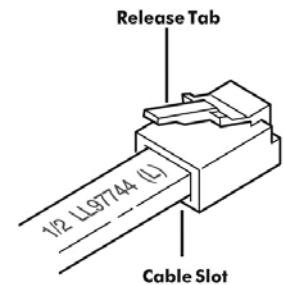

FIGURE 19: RJ-12 Modular Plug
10. Push down on the release-tab on the RJ-12 Modular Plug (Figure 19) and remove the RJ-12 Modular Plug from the crimping tool.